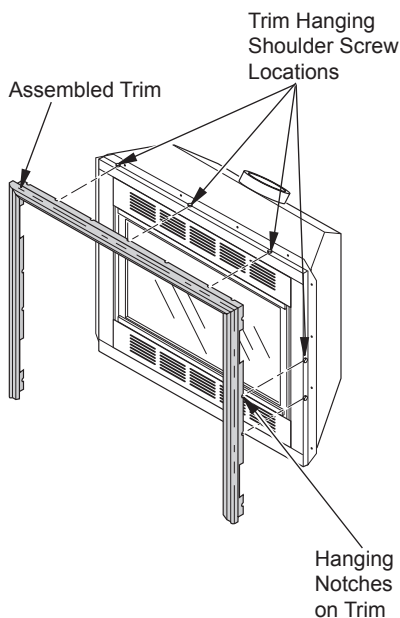

Figure 51 - Attaching Trim to Firebox
8. Place the assembled trim onto firebox cabinet. Align hanging notches on trim with trim hanging shoulder screws (see Figure 51). Tap trim firmly into place with palm of hand or rubber mallet by engaging hanging notches around shoulder screws. Start at one end of the trim and work around firebox until all notches are fully engaged.